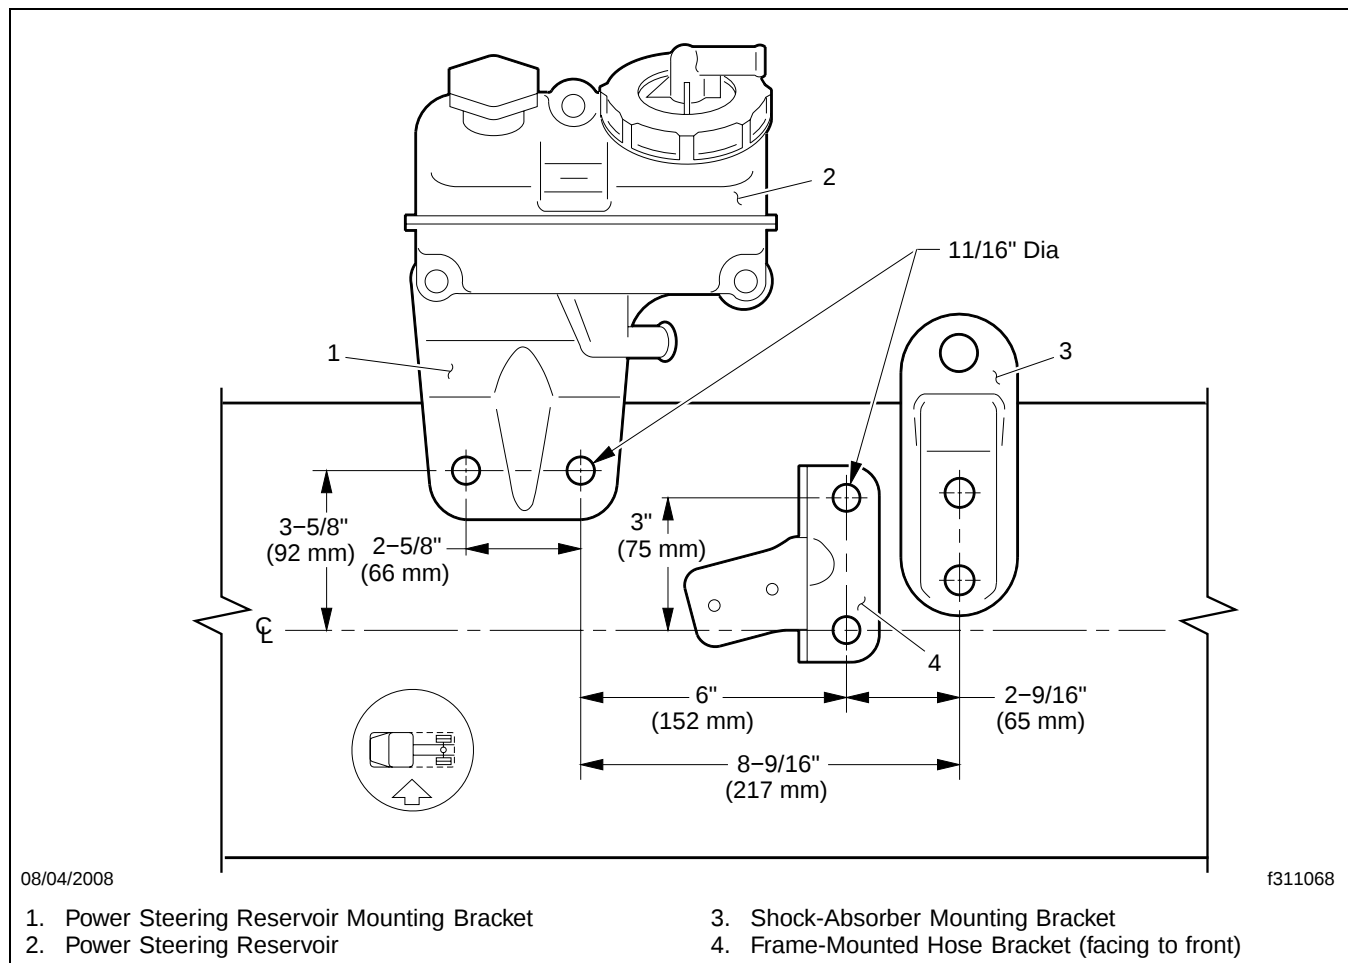

Fig. 3, Drilling and Mounting Locations
15. Mark the layout of the holes on the frame, using the drilling diagram. See **Fig. 3**.
39. Install the frame-mounted hose bracket, as shown in **Fig. 3**.